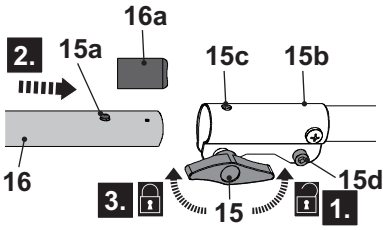

Fig. 1
1. Loosen the lock knob (15) counter-clockwise (Fig. 1, step 1).
2. Remove the black protective sleeve (16a) firstly, then align the lower pole (16) with the locking sleeve (15b) and insert it (Fig. 1, step 2). Make sure the pin (15a) matches the bore (15c).
4. Secure the connections with the lock knob (15) (Fig. 1, step 3).